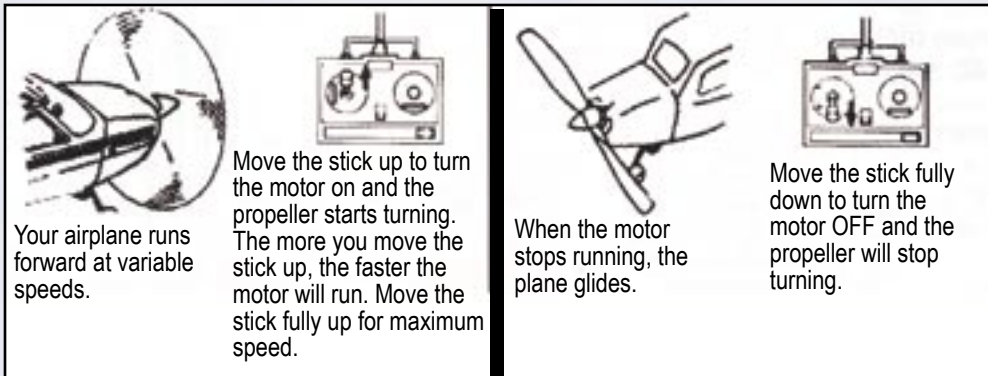

Figure 15 - Throttle Stick Movements
- C. Next test the motor (this should be done outdoors!). First, make certain that the left stick, the throttle stick, is in the “off” position (all the way down) and the transmitter switch is on. Then firmly grasp the center of the Freedom Flyer fuselage, keeping hands and all obstructions clear of the propeller. Now press the red safety start switch and slowly move the throttle up to full to make certain the propeller and gearbox are operating properly. Move the throttle up and down a few times to get a feel for how it works (See **Figure 15**). Once you are satisfied and familiar with the operation of your Freedom Flyer, unplug the battery and then turn off the transmitter.